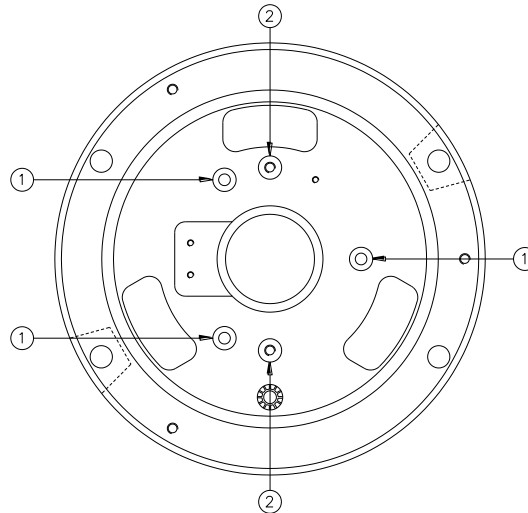

Figure 18 – Removing the Aluminium Ring
- unscrew the three screws HSCH M5x16 (Figure 18- n° 1) and remove the aluminium ring using two of them into the proper extraction-holes (Figure 18 - n° 2)